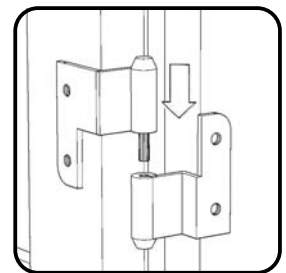

Figure 7
Attach Doors (R) and (S) by sliding door hinges into side panel hinges. (See Figure 7)